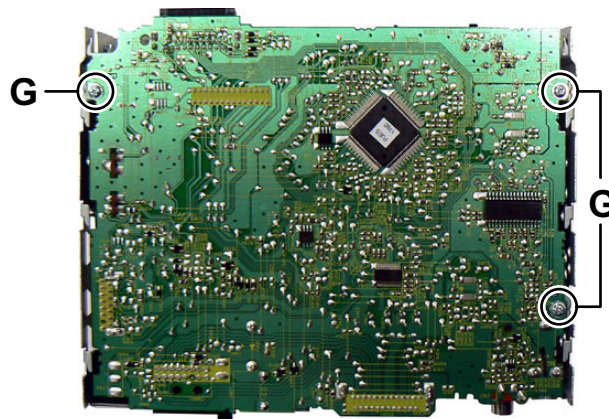

Fig.5
- (2) Remove the three screws **G** attaching the Main board. (See Fig.5)